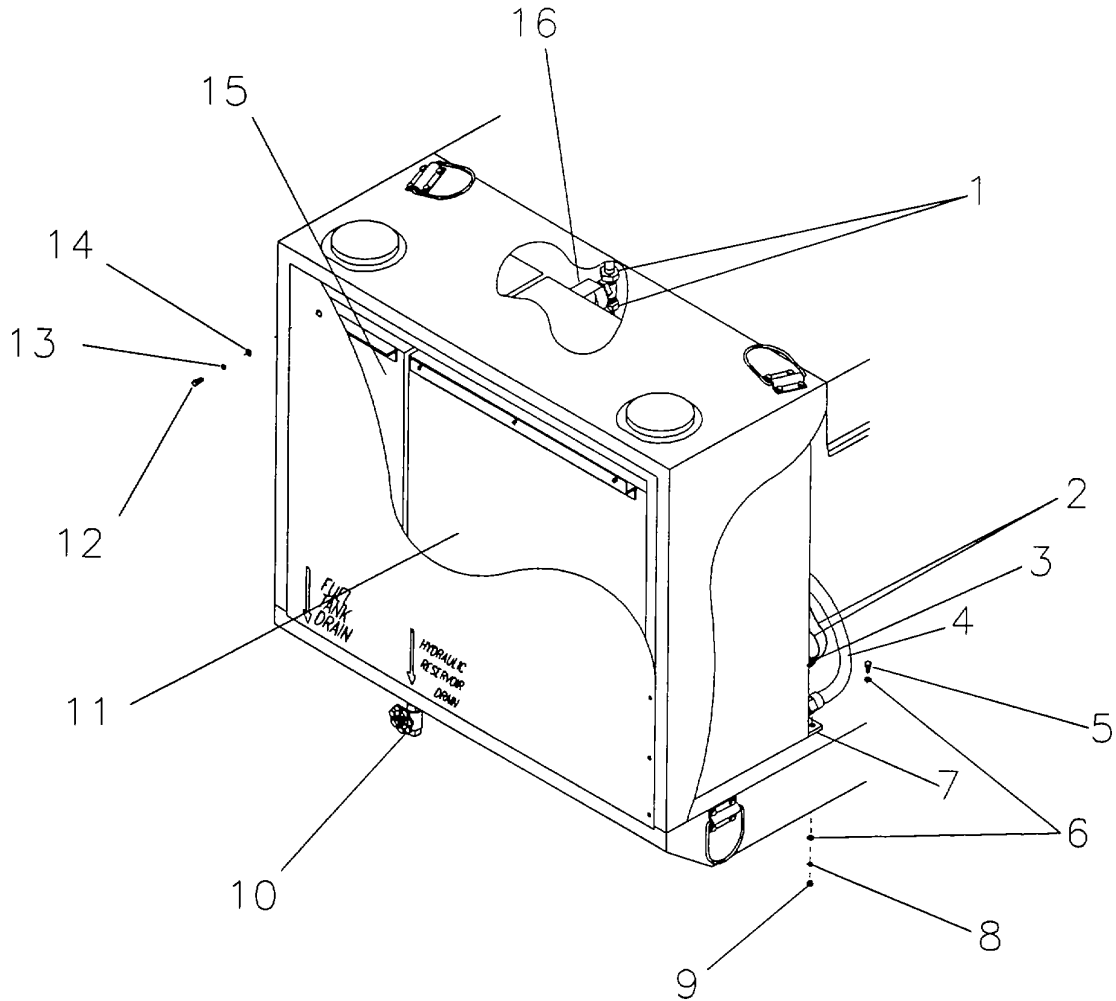

Figure 5-2. Hydraulic Fluid Tank.
a. Removal. Refer to figure 5-2.
- 1) Tag and remove the wires (2) from oil overtemp switch (3).
- 2) Remove and plug hose (4) from hydraulic fluid tank (11).
- 3) Remove hydraulic fluid tank drain valve (10).
b. Installation. Refer to figure 5-2.
- 1) Install the hydraulic fluid tank (11) through the rear of the cabinet, making sure the bottom mounting angle (7) is to the front.
- 2) Install the fuel tank (15). Refer to paragraph 4.17.
- 3) Connect the fluid lines (1) at the return filter housing (16) on the hydraulic fluid tank (11).
- 4) Connect the hose (4) to the hydraulic fluid tank (11).
- 5) Connect the wires (2) to the oil overtemp switch (3).
- 6) Install the hydraulic fluid tank drain valve (10).
- 7) Install nuts (9), lockwashers (8), flatwashers, (6), bolts (5), flatwashers (14), lockwashers (13) and screws (12). Refer to 4.17.